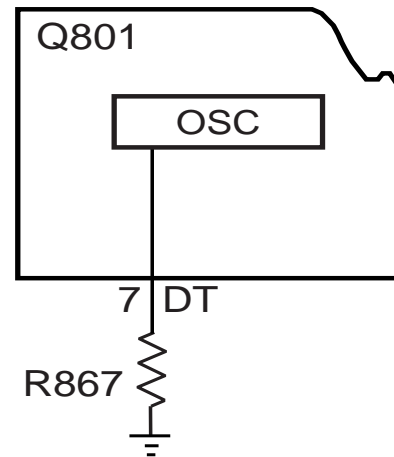

Figure 7
Refer to figure 7. Q801's internal Oscillator develops the power supply's switching frequency by generating a ramp waveform internally. During normal operation, both MOSFETs are OFF for a short time when they are alternately switching. This OFF time is called dead time and determined by resistor R867 on the dead time (DT) terminal pin 7.